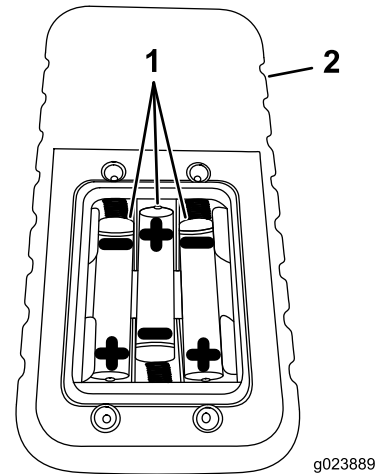

Figure 16
4. Install 3 new, AAA batteries in the orientation shown in Figure 16.